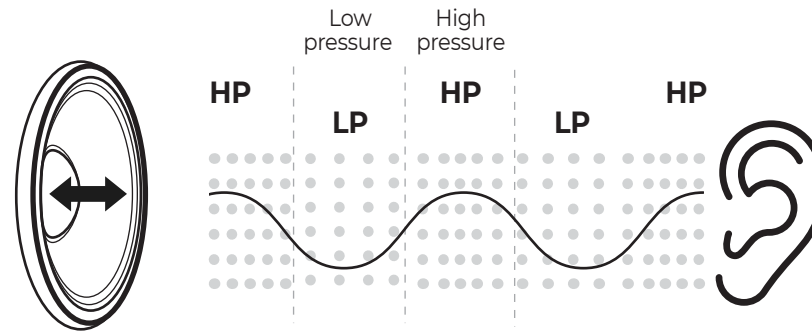

Figure 1
When the voltage increases, the membrane cone of the speaker is pushed outwards and it pushes air molecules forward, thus forcing them together and creating a high pressure (HP) area (see Figure 1).